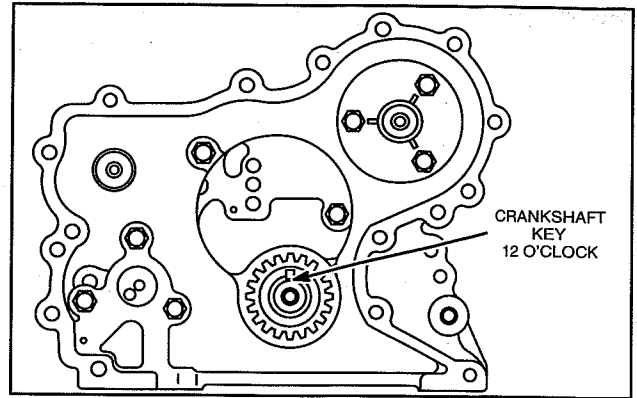

Fig. 17 - Crankshaft Position
3. Make sure crankshaft key is at 12 o'clock position as shown in Fig. 17.